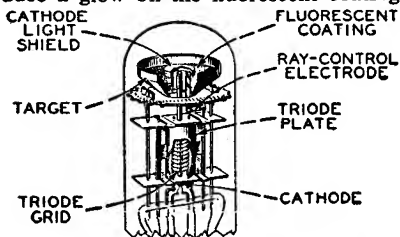

Fig. 71—Structure of electron-ray tube.
Electron-ray tubes are designed to indicate visually by means of a fluorescent target the effects of a change in controlling voltage. One application of them is as tuning indicators in radio receivers. Types such as the 6U5, 6E5, and the 6AB5/6N5 contain two main parts: (1) a triode which operates as a dc amplifier and (2) an electron-ray indicator which is located in the bulb as shown in Fig. 71. The target is operated at a positive voltage and, therefore, attracts electrons from the cathode. When the electrons strike the target they produce a glow on the fluorescent coating